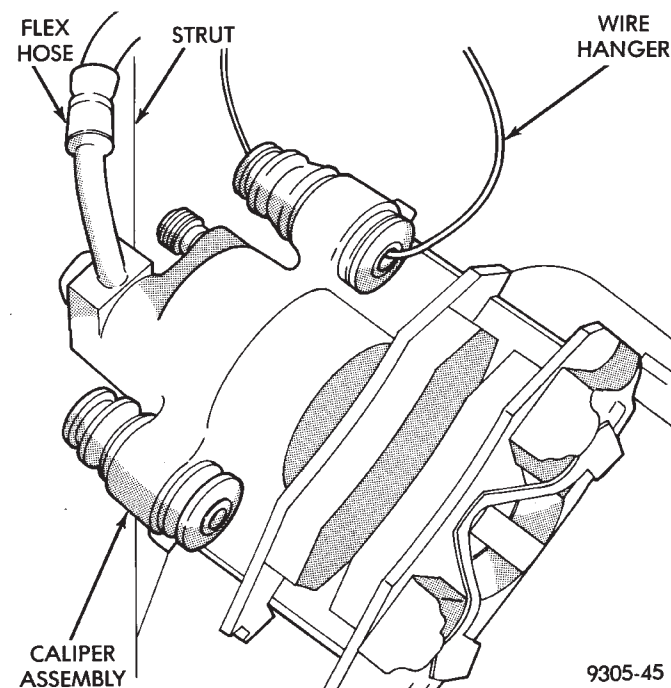

**Fig. 21 Storing Caliper**
(1) Raise vehicle on jackstands or centered on a frame contact type hoist. See Hoisting in the Lubrication and Maintenance section of this manual, for the required lifting procedure to be used for this vehicle.
(2) Remove the rear wheel and tire assembly from the vehicle.
(3) Remove the rear caliper assembly from the adapter. Refer to Rear Disc Brakes in Group 5 Brakes of this Service manual for required caliper removal procedure. After removing caliper assembly store caliper by hanging it from frame of vehicle (Fig. 21). Do not let weight of rear caliper assembly hang from flexible brake hose.